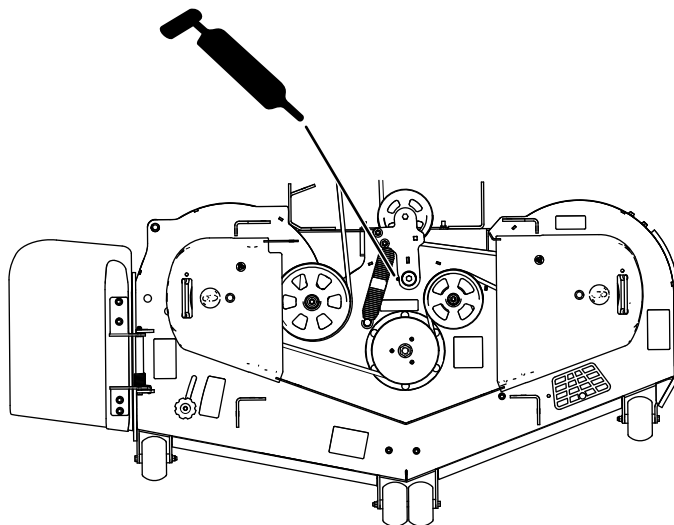

Figure 44
4. Grease the mower deck idler-pulley pivot until grease comes out the bottom (Figure 44).